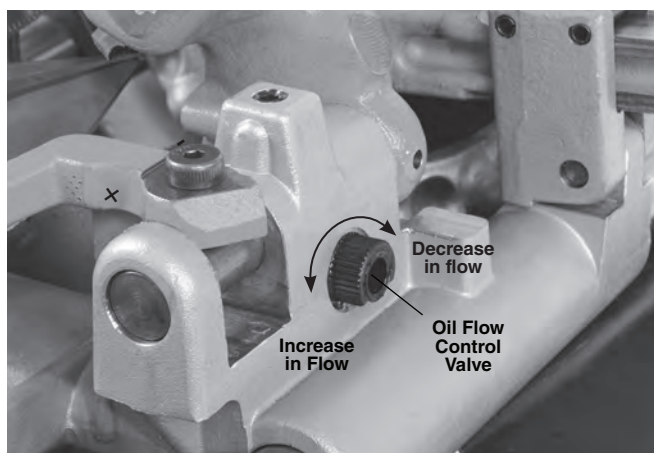

Figure 4 – Adjusting Oil Flow
- Place die head in the use position. Depress and hold the foot switch. Check for oil flow through the die head. Remove foot from the foot switch. The oil flow can be adjusted with the control valve on carriage (*Figure 4*). Clockwise rotation decreases flow and counterclockwise increases flow. Do not adjust while the machine is running. If needed, see "*Maintenance Instructions*" section for oil system maintenance.